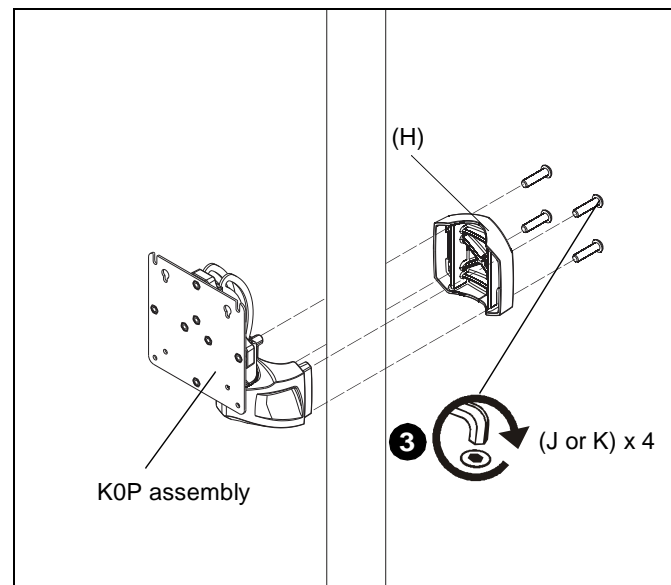

Figure 2
2. Place mount (A) against pole with clamp (H) on opposite side of pole. (See Figure 2)
3. Using 5/32" hex key (M) and appropriate length screws, loosely attach K0P assembly to pole clamp (H). If installing to 1 1/2" NPT pipe, use 1/4-20 x 1 1/2" button head cap screws (J). If installing to 1 1/2" diameter pipe, use 1/4-20 x 1" button head cap screws (K). (See Figure 2)